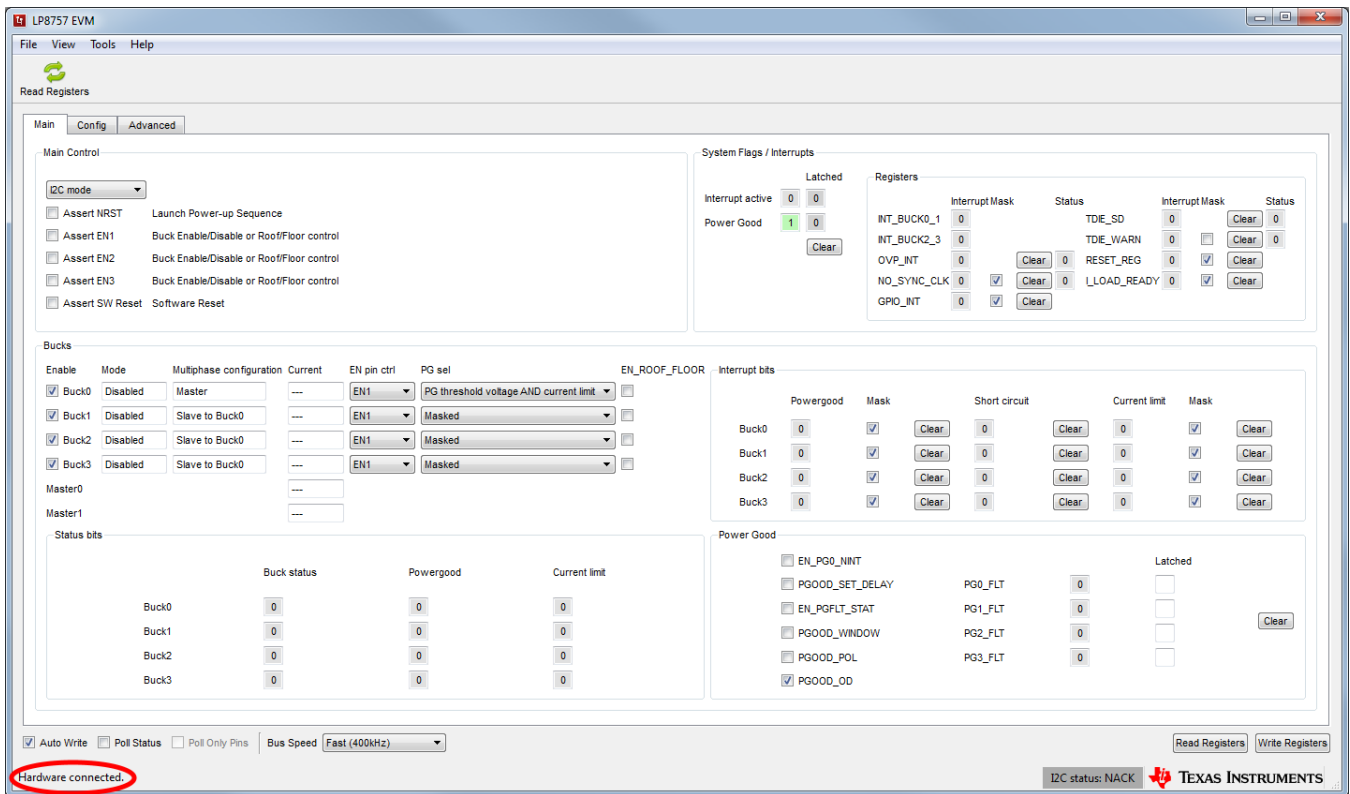

Figure 6. Evaluation Software Graphical User Interface (GUI) When Board Connected
2. On the Evaluation SW window bottom right corner you should see text “Hardware connected.”. Refer to Figure 6.